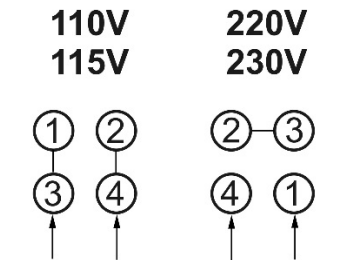

Figure 7-2: main motor wiring
1. Open main motor junction box cover, and change leads based on wiring diagram inside cover. This diagram is also shown in Figure 7-2. (NOTE: In case of discrepancy, diagram inside junction box cover takes precedence.) Reinstall cover.